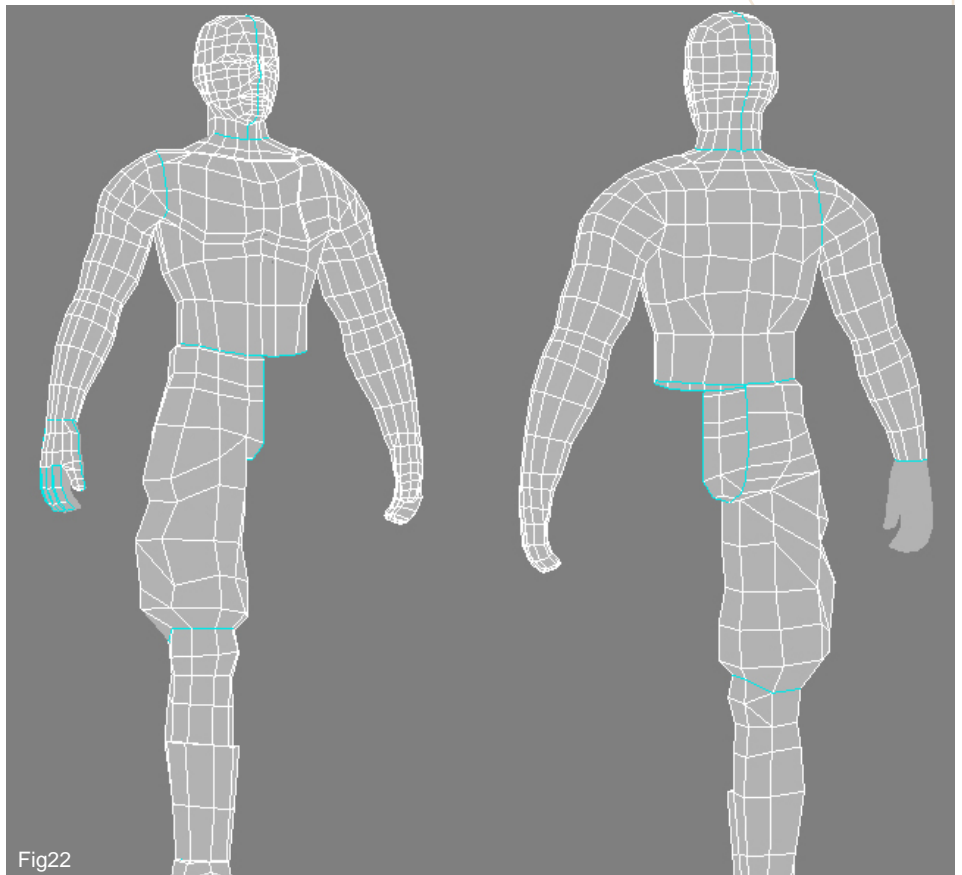

Fig22
22. As you can see in Fig22, all the seams are put in areas where it would be difficult to notice any texture or stretching problem.